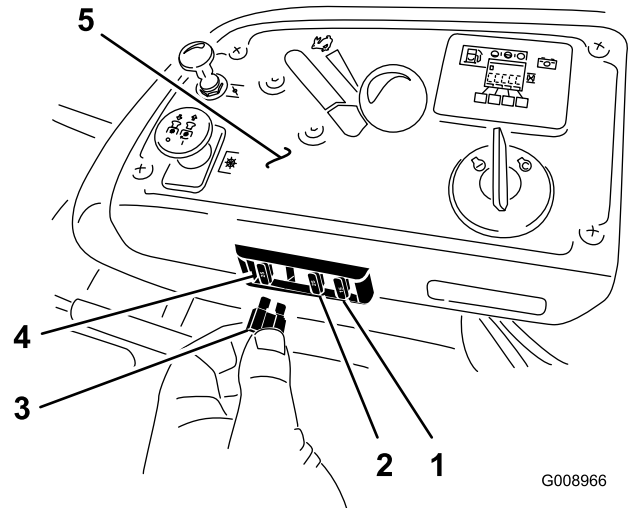

Figure 61
The fuses are located on the console to the right of the seat (Figure 61).
2. Install a new fuse (Figure 61).